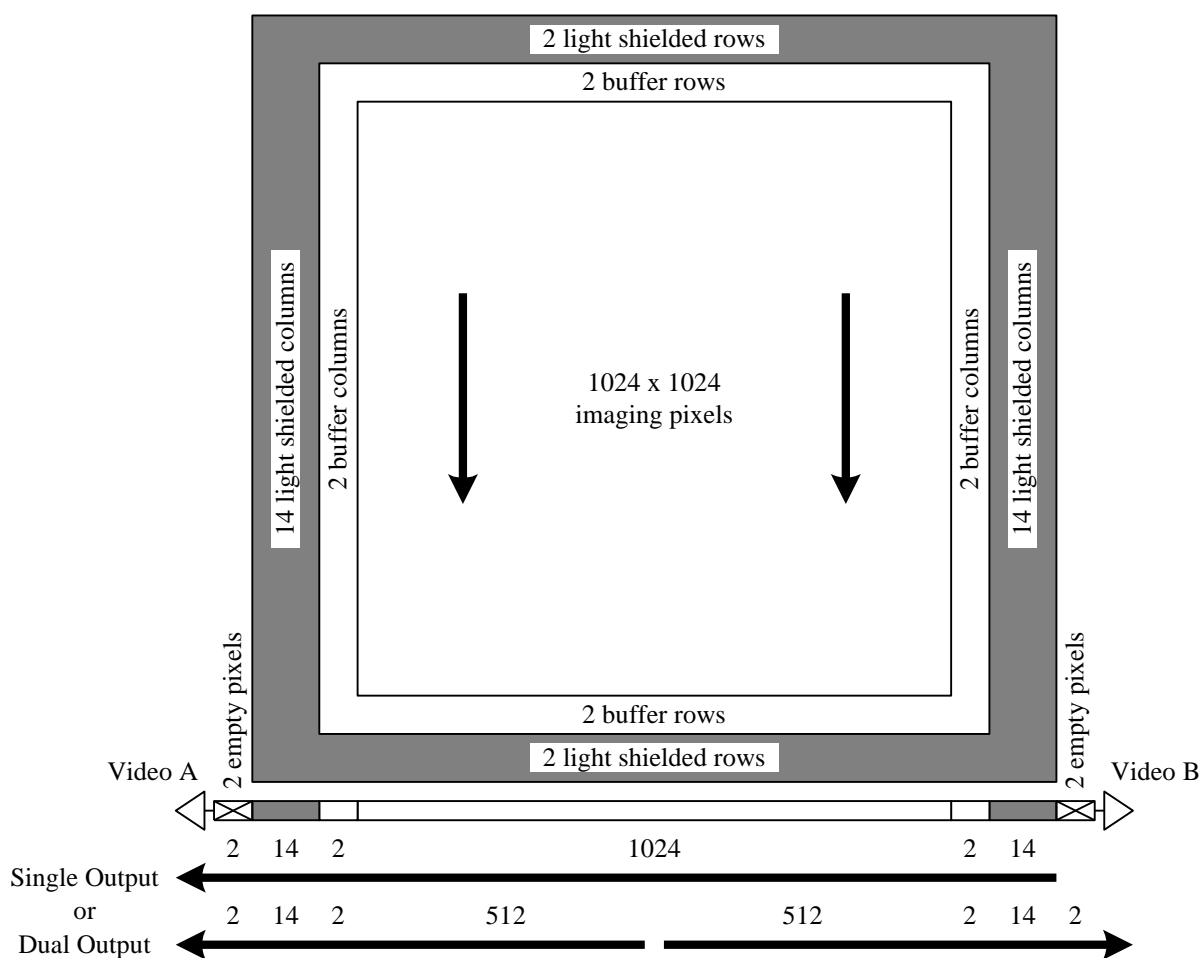
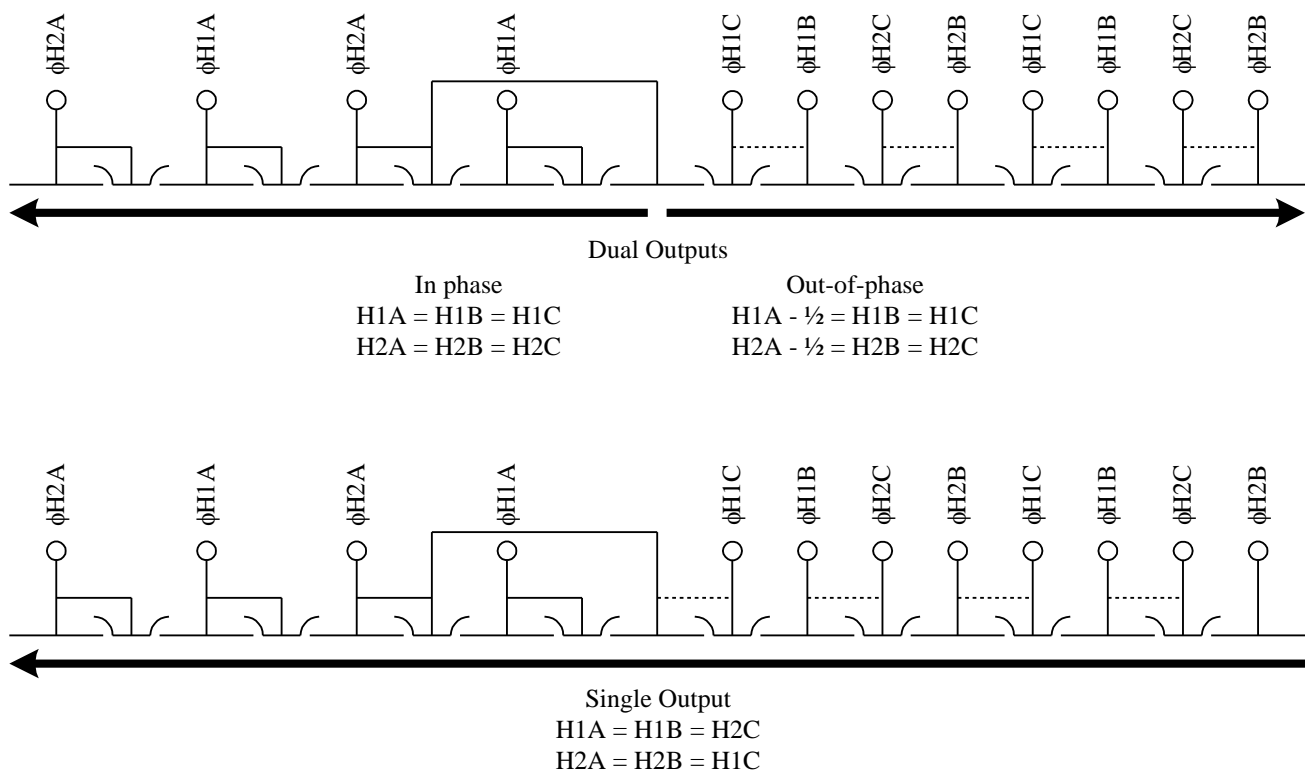

Figure 1: KAI-1003 Sensor Architecture
Figure 2: Horizontal CCD Registers
| Figure 1: KAI-1003 Sensor Architecture .....                     | 6  |
The single horizontal CCD register is split into two halves to allow a variety of line readout modes, as shown in Figure 1 and Figure 2. The A output half of the register is a true two-phase design, which results in unidirectional transport using phases H1A and H2A. The B output half of the register is a pseudo two-phase design, which allows bi-directional transport using phases H1B, H2B, H1C and H2C. Dual output is achieved with all of the first phases identical and all the second phases identical. If the clocks of H1A and H2A phases are shifted by one half cycle, the output remains dual with the outputs alternating, so that only one analog-to-digital converter is necessary. Finally, single output of the entire image from the A output is obtained by complementing the C phases, which reverses transport in the B half of the horizontal CCD.
In addition to the 1024 (H) by 1024 (V) imaging pixels, there are active buffer, light shielded and empty pixels, as shown in Figure 1. A two-pixel border of active buffer pixels surrounds the imaging area. These buffer pixels respond to illumination but are not tested for defects and non-uniformities. Two light shielded rows lead and follow each frame, and 14 light shielded columns lead and follow each line. The light shielded columns are tested for column defects and can be used for dark reference. Only the center 10 columns by 1028 rows of light shielded region on each side can be used for dark reference due to light leakage into the border of two pixels at the edges. Finally, two empty pixels occur at the beginning of each line, which are empty shift register cycles not associated with any vertical CCD columns. Empty pixels may also occur at the end of the line, depending on the timing.